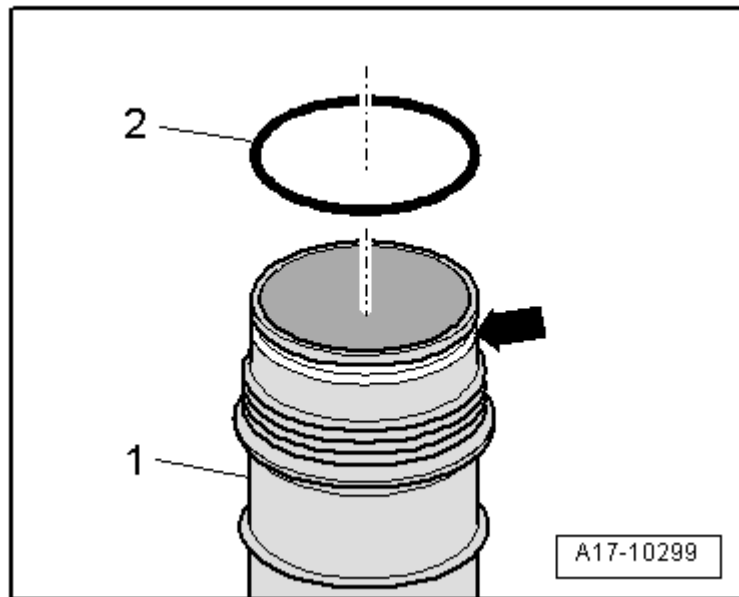

Fig. 5: Identifying Oil Filter Housing O-Ring
- Inserting, refer to **Fig. 5**